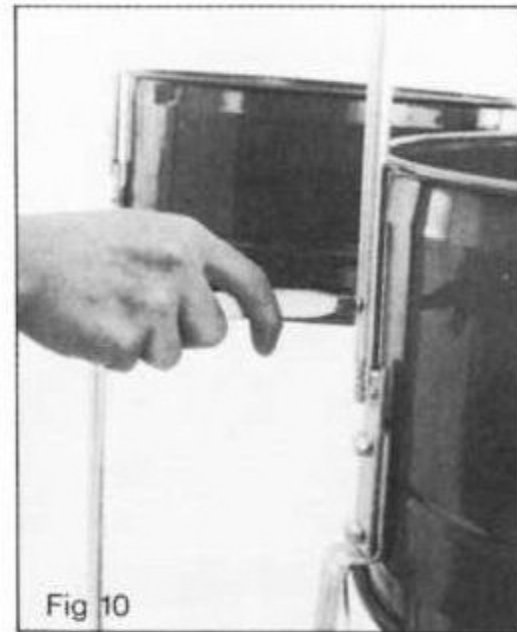

Fig 10
At this time the two bag supports(E) should be installed onto the support inserts as shown in fig 10.
At this time the two bag supports (E) should be installed onto the support inserts as shown in fig 10.